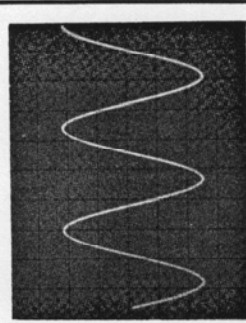
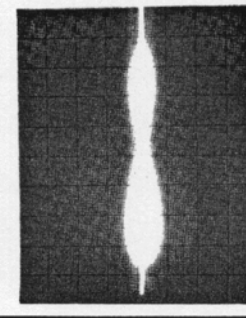

Figure 3-5. Single-shot display with INTENSITY and PERSISTENCE set to high and increased amplitude
Figure 3-6. Single-shot trace bloom caused by INTENSITY and/or PERSISTENCE set too high
Trace blooming (figure 3-5) indicates excessive INTENSITY that can damage the CRT. Blooming does not occur in the CONV mode. Do not increase intensity when in CONV mode. Always repeat above procedure each time sweep speed or input signals change.
- f. Bloom. A visible, non-symmetrical expansion of a display written on the CRT screen, figure 3-5.
persistence. For example, with maximum PERSISTENCE and some settings of INTENSITY, a single-shot straight-line trace may bloom as shown in figure 3-5, while a single-shot signal with amplitude variations of several divisions may not cause blooming (figure 3-6). To determine the best INTENSITY setting, connect a signal which approximates the sweep time and amplitude of the single-shot signal to be written. Set PERSISTENCE fully cw and trigger a single sweep of the test signal. Set the INTENSITY as far cw as possible without causing blooming. Repeat the single sweep signal, erasing the display and setting the INTENSITY after each trace until the desired display is obtained. This setup should give maximum persistence to the single-shot display. After the single-shot signal has been written, the display may be retained by pressing STORE and setting the TIME control to MAX.